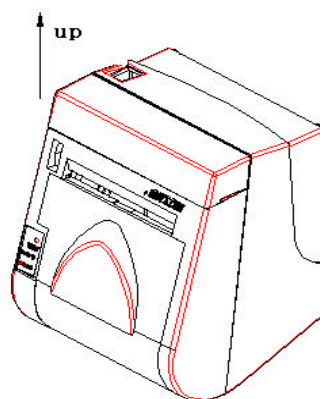

Figure 2
- 2) Hang the printer vertically on the wall: see figure 2.